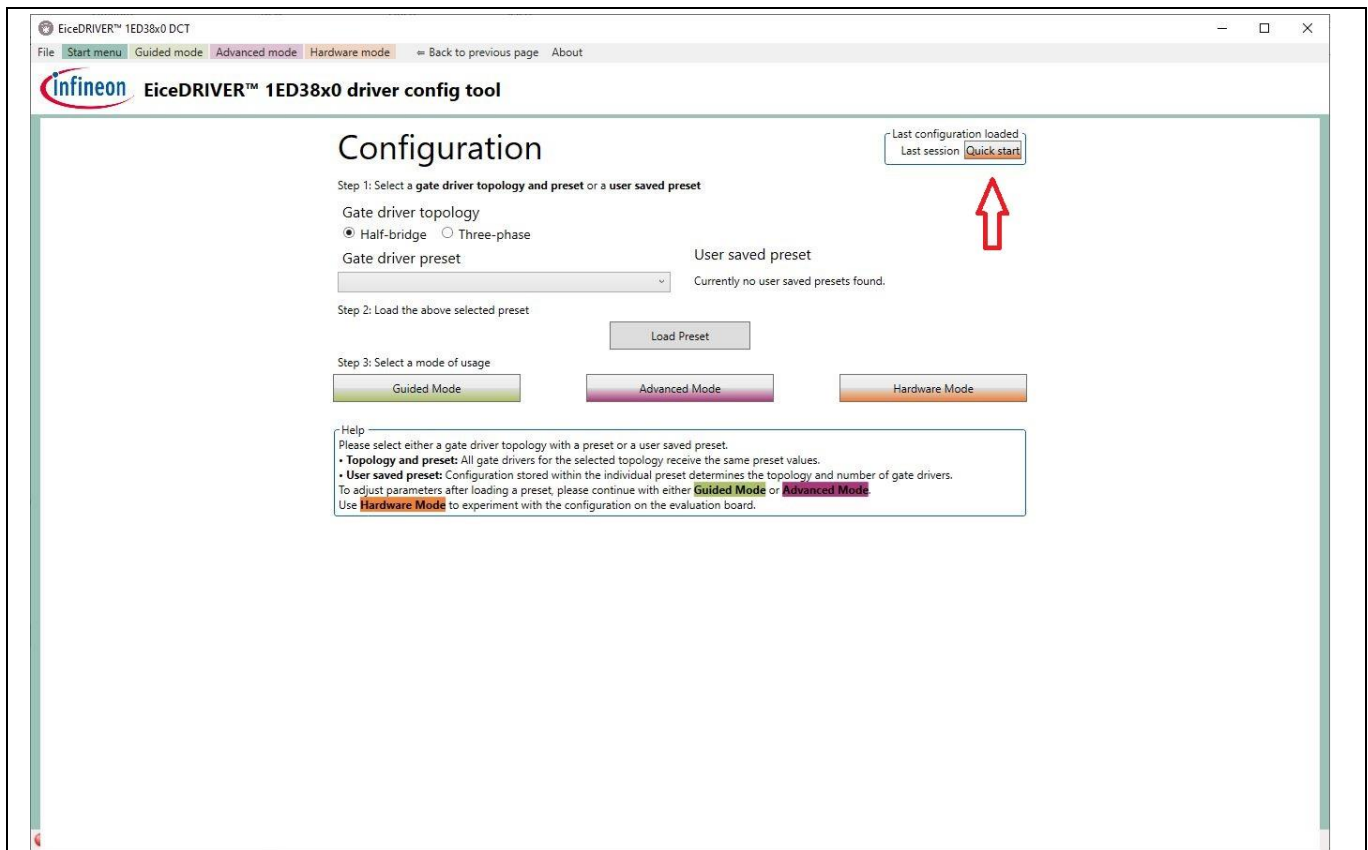

Figure 16 Landing page after starting the GUI 1ED38x0_DCT.exe
7. Press the “Quick-Start” button (Comes up if every thing works correctly – see Figures 16 and 17)